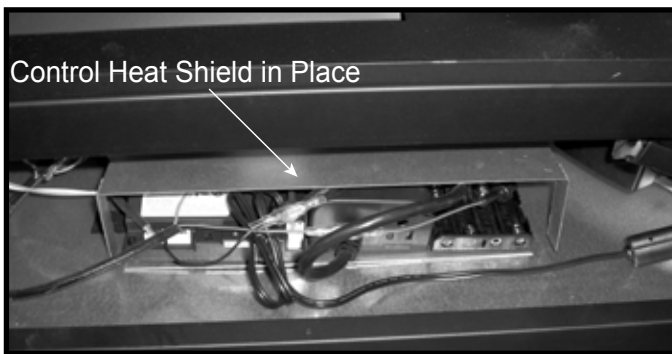

Figure 11.4 Control Heat Shield - Installed
- Verify that the control heat shield is installed and legs are on bottom pan of appliance. See Figure 11.4.